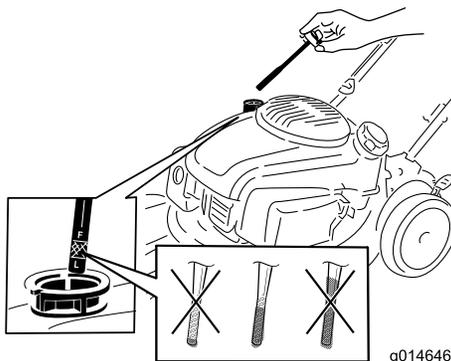

Figure 17
2. Remove the dipstick (Figure 17).
4. **Slowly** pour oil into the oil fill tube until the oil level reaches the Full line on the dipstick (Figure 17). **Do not overfill.** (Max. fill: 22 oz. (0.65 l), type: 10W-30 or SAE 30 detergent oil with an API service classification of SJ or higher.)
**Note:** Each time you check the oil level, remove the dipstick and wipe it clean, insert it into the oil filler neck (but **do not** screw it in), then remove it again and check the level (Figure 17).